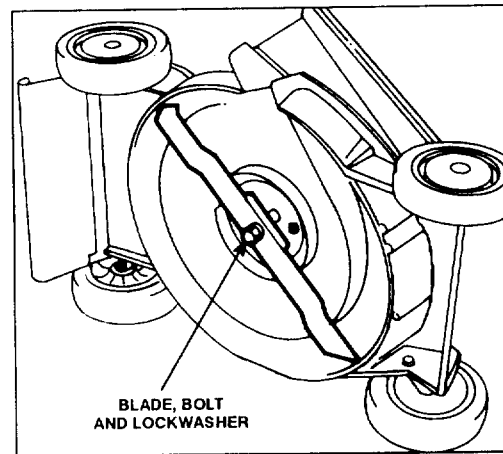

Figure 16
4. Tip mower on its left side (Fig. 16).
6. REMOVING BLADE—Grasp end of blade using a rag or thickly padded glove. Remove blade bolt, lockwasher, and blade (Fig. 16).